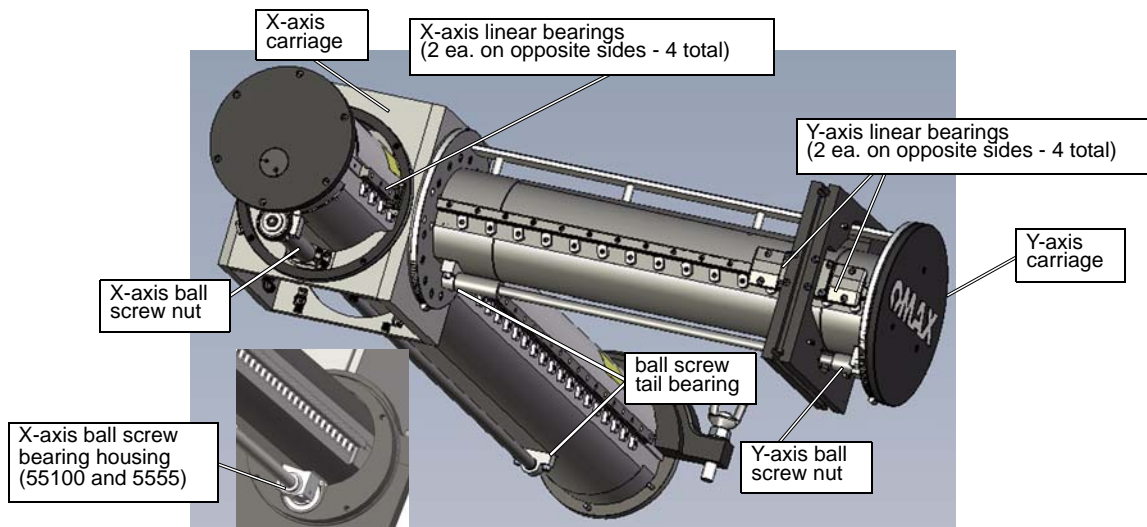

Figure 6-12: Lubrication Points on OMAX Cantilever Style X, Y Carriages
Figure 6-12 below identifies lubrication points for the OMAX models 2626, 2626|xp, 2652, 5555, and 55100. All grease fittings on the carriages are zerk style.
5. Locate the grease fittings on the **ball screw** and the **linear bearings** (Figures 6-12 and 6-13). For a 55100, also locate the ball screw bearing housing.
9. Locate and grease the two ball screw tail bearings (Figure 6-12).
8. Locate and grease the ball screw tail bearing at the end of the Y-axis ball screw (Figure 6-12).